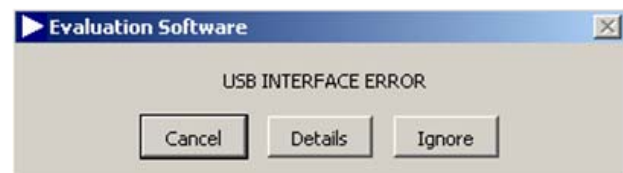

Figure 8. Configuration Tool
2. The message in Figure 8 appears.